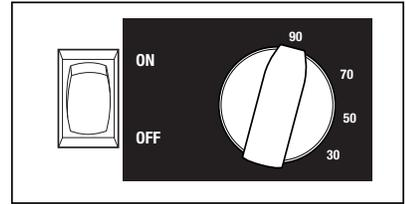

**Figure 7**
- Attach the wire compartment to the power unit with two of the provided #6 blunt tipped screws (**Figure 7**).